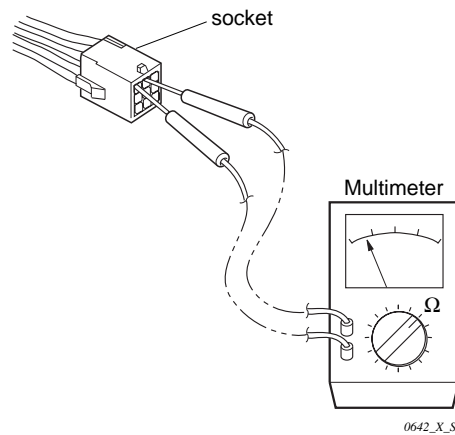

Fig. 25
(2) Checking the Protective Devices
- Then check continuity among plug's (and/or socket's) terminal as in **Fig. 25**.